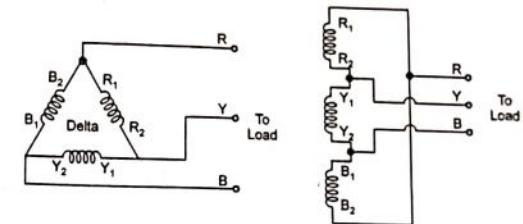

Fig. 4.5.2 Delta connection
- The delta connection is shown in the Fig. 4.5.2.